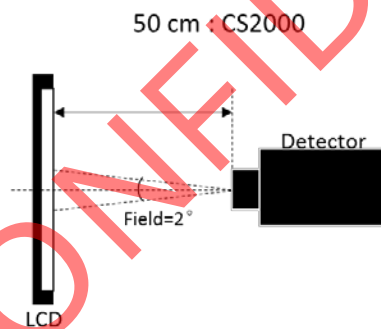

Fig 4.1 Measurement equipment.
- (1) Each chromaticity coordinates (x, y) are measured in CIE1931 color space when full-screen displaying (Red, Green, Blue, White) and light source is defined by C-light, Measurements shall be made at the center of the panel, and setup of measurement is shown in Fig 4.1.
- (2) The color gamut is defined as the fraction in percent of the area of the triangle bounded by R, G, B coordinates and the area is defined by NTSC 1931 color standard in the CIE color space. Chromaticity coordinates are measured by CS2000 and the standard setup of measurement is shown in Fig 4.1.
- (3) Definition of Transmittance (T%):
(6) Definition of Viewing angle:
As Note (4) the static contrast ratio definition, the viewing angles are defined at the angle that the contrast ratio is larger than 10 at four directions relative to the perpendicular direction of the HKC's module (two vertical angles: up θ_{y+} and down θ_{y-} ; and two horizontal angles: right θ_{x+} and left θ_{x-}). The standard setup of measurement is shown in Fig 4.1 & 4.4